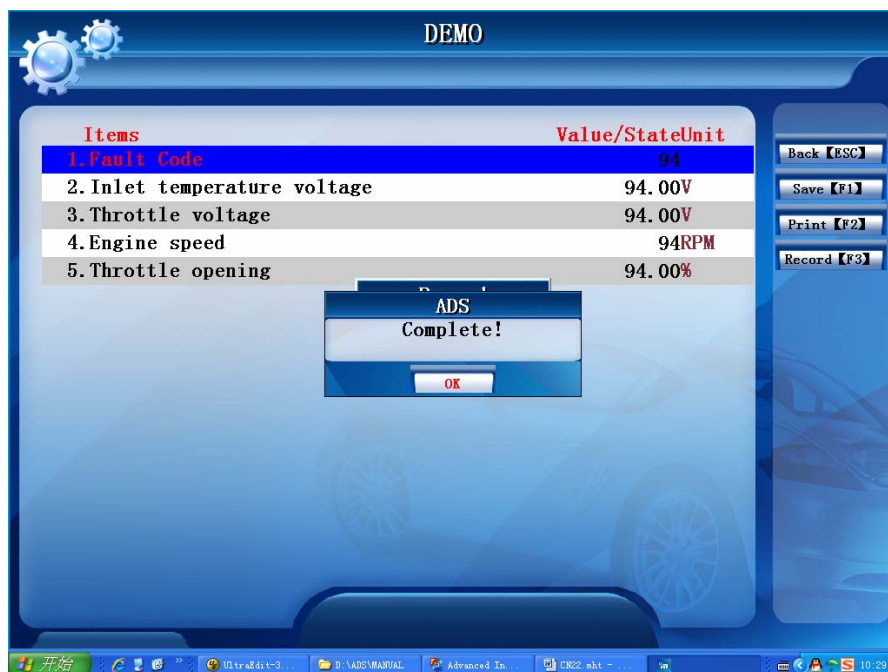

Figure-31
31. Click "OK", appears figure-31